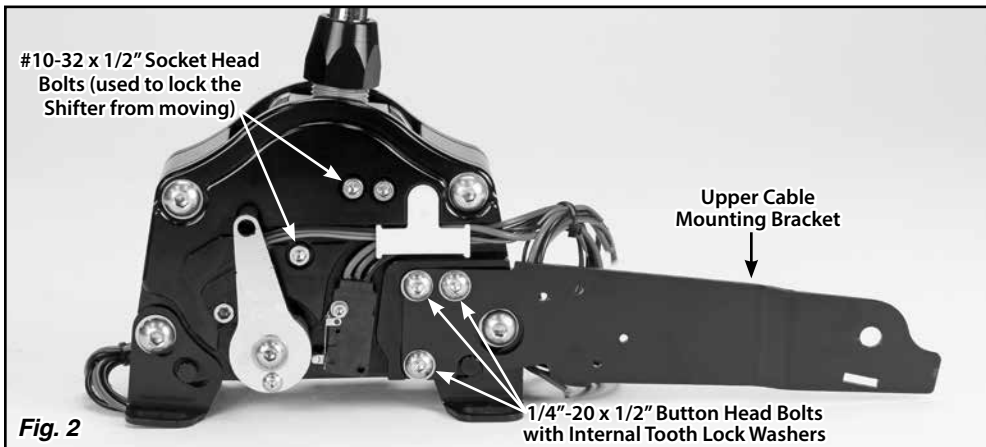

Fig. 2
Step 2: Install the upper cable mounting bracket onto the Lokar Shifter using a 5/32" Allen wrench and three 1/4"-20 x 1/2" button head bolts with internal tooth lock washers. **Fig. 2**
Step 4: Place the Shifter in the desired location. Temporarily remove the two #10-32 x 1/2" socket head bolts used to lock the Shifter from moving. **Fig. 2**
Step 16: Use a 5/32" Allen wrench to remove the two #10-32 x 1/2" socket head bolts called out in **Fig. 2**. Then, depress the release button and move the shifter lever all the way forward into Park.